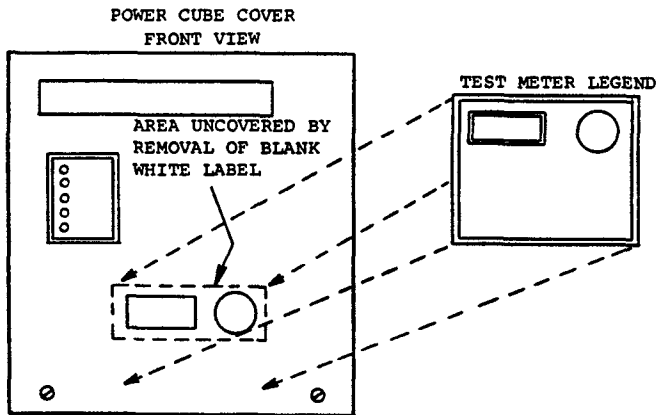

Figure 2.
2. See Figure 2. Remove the blank white label from the Power Cube cover. Affix the Test Meter legend plate to the cover, aligning the readout lens and switch cutout with holes in the cover.